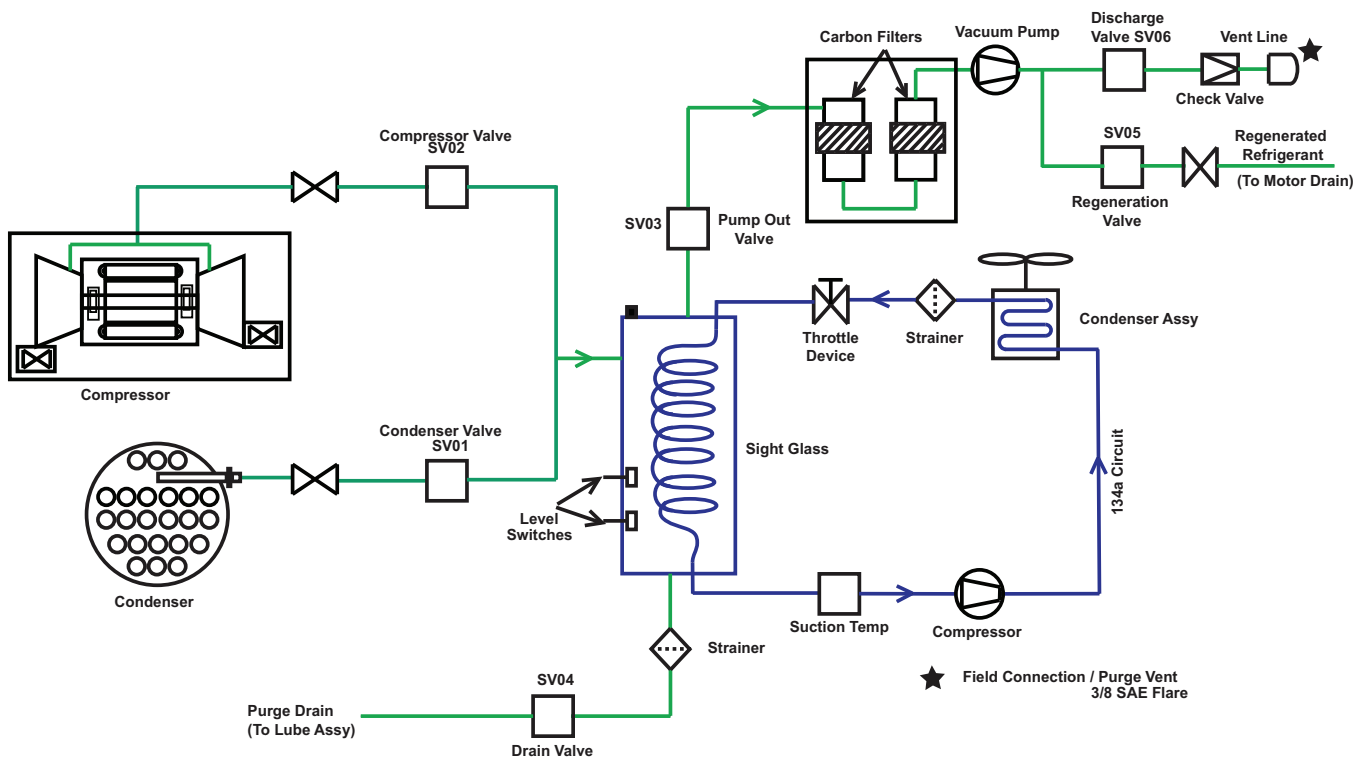

Fig. 12 — Purge Assembly
In the purge tank the purge gas is cooled by a separate integral R-134a cooling system. The cooling system consists of a compressor, an air cooled condenser coil, an expansion valve, and a cooling coil in purge tank. Cooling the purge gas results in condensation of R-1233zd(E) vapor as it touches the coil, resulting in a vacuum with the result that more refrigerant is pushed to the coil. As the purge tank fills up with refrigerant it will be drained through the purge drain to the refrigerant pump assembly. See Fig. 12.